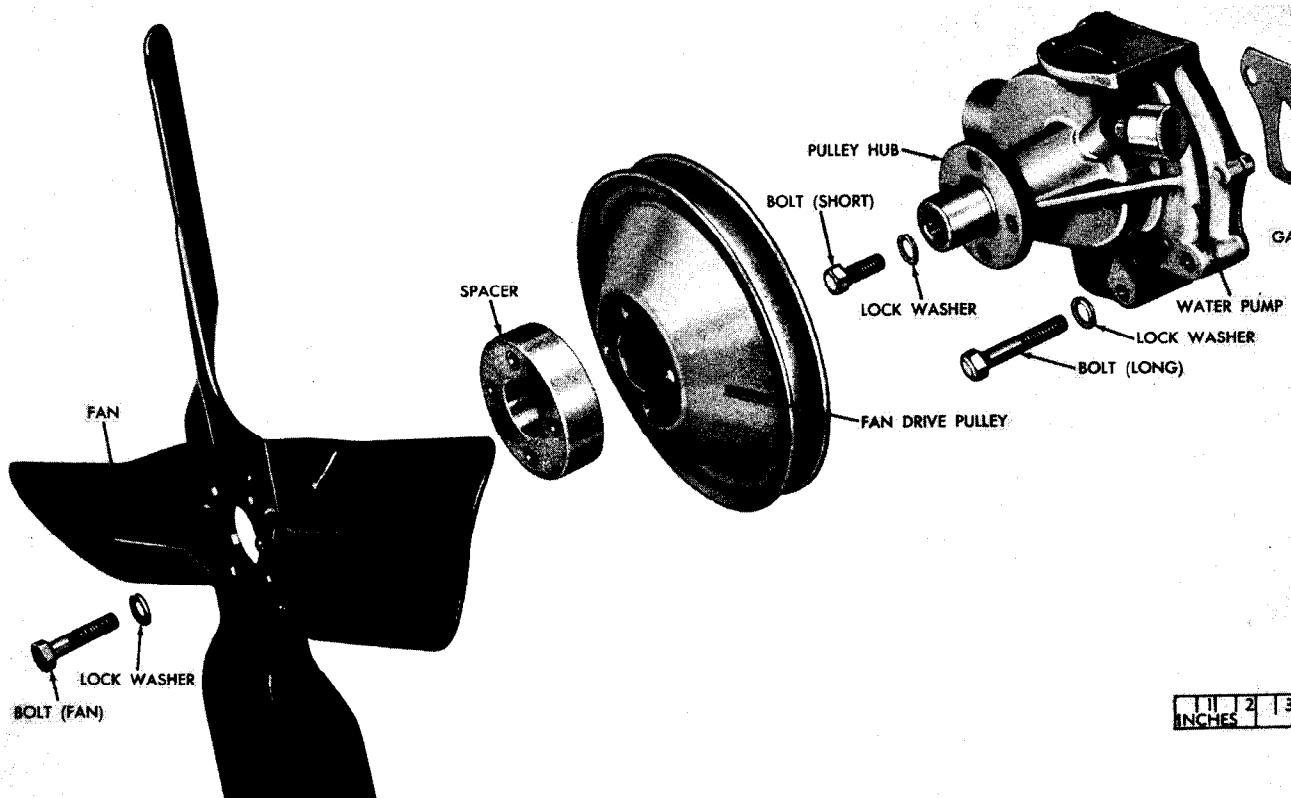

Figure 122. Fan, water pump, and related parts—exploded view.
- (1) Loosen the fan belt (par. 152b) and disengage it from the fan drive pulley (fig. 122).
- (2) Remove the four bolts and lockwashers that secure the fan, spacer, and fan drive pulley to the pulley hub and remove the fan, spacer, and fan drive pulley.